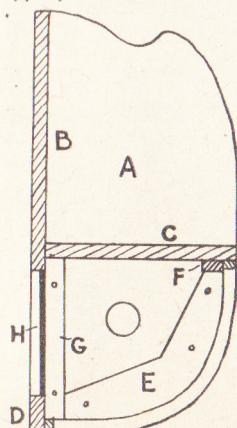
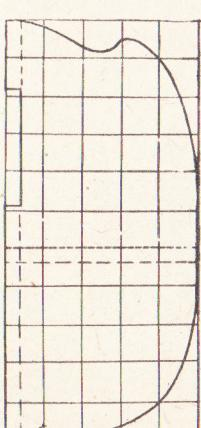
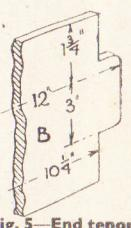

Fig. 2—End section
Fig. 3—End shape
Fig. 6—End tenon
headed screw. Do not screw right home but leave enough of the screw sticking out for the metal ties (B) Fig. 2, to slip under. These ties can be made from  $\frac{1}{8}$  in. thick iron bar, about 1 in. wide. At the points shown drill three holes, the left side one  $\frac{1}{8}$  in. and the rest to suit the round-headed screws already mentioned.
across the ends of each pair of legs, as in detail sketch, Fig. 2, with a stout round-headed brass screw in the right hand hole.
The ends (A), Fig. 2, will be the first pieces to set out and cut. Two pieces of  $\frac{1}{2}$  in. thick stuff measuring 11ins. by 5ins. will be wanted, and on one of the pieces a series of 1in. squares must be drawn. The curved outline is put in through them, as in Fig. 3. It would be well to add on the piece to the dotted lines which indicate the position of shelf (C) and the back rail (B).
Next prepare the lower rail (D). This will be  $10\frac{1}{4}$  ins. long but only 1in. wide. The intervening space between this rail and rail (B) above is filled with a piece of spare thin plywood or ordinary  $\frac{1}{8}$  in. wood, shown as (H) in Fig. 2. It should not be fitted and fixed until all the rest of the work is finished, as it really forms a removable panel for getting to the lamp inside. Otherwise once the curved front is fixed, this back panel will form the only means of access for the renewal of bulb or for repairs. Fix the rail (D) by driving screws through the ends into it the same as the shelf above.
To form a fixing for the top edge of the curved paper front of the lamp, a strip of small section wood as  $\frac{1}{2}$  in. by  $\frac{1}{4}$  in. must be fitted between the pieces (E) and glued to the underside of the shelf. The strip is seen as (F), in the section, Fig. 2, and again in the detail, Fig. 6. The latter diagram also shows how the paper is glued to the strip and held securely by a fixing bead nailed on underneath the shelf.
The front fixing bead, however, should greatly reinforce the fixing. In Fig. 6 we include a sectional view, showing how the electric bulb is installed. Assuming the panel (H) has not